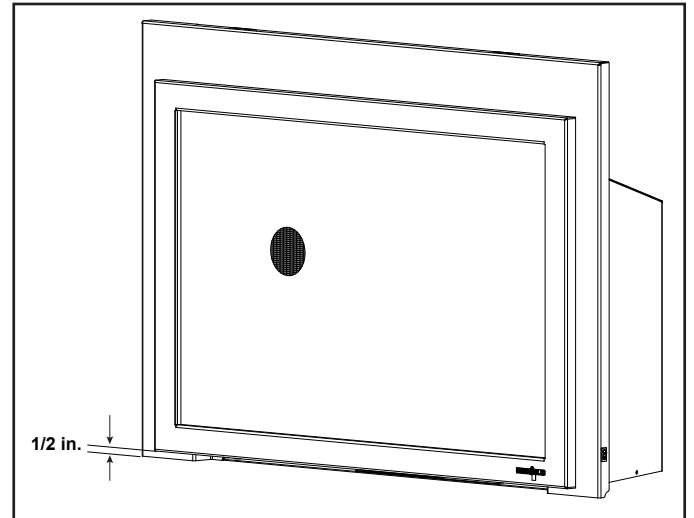

Figure 3.17. Minimum Required 1/2 in. Gap to Bottom of Front
- 1/2 inch gap under the bottom of the front must be maintained. See Figure 3.17.
- A minimum 1/4 inch gap from the bottom of the appliance to the metal floor of the solid fuel firebox is **REQUIRED**. See side view in Figure 3.17.